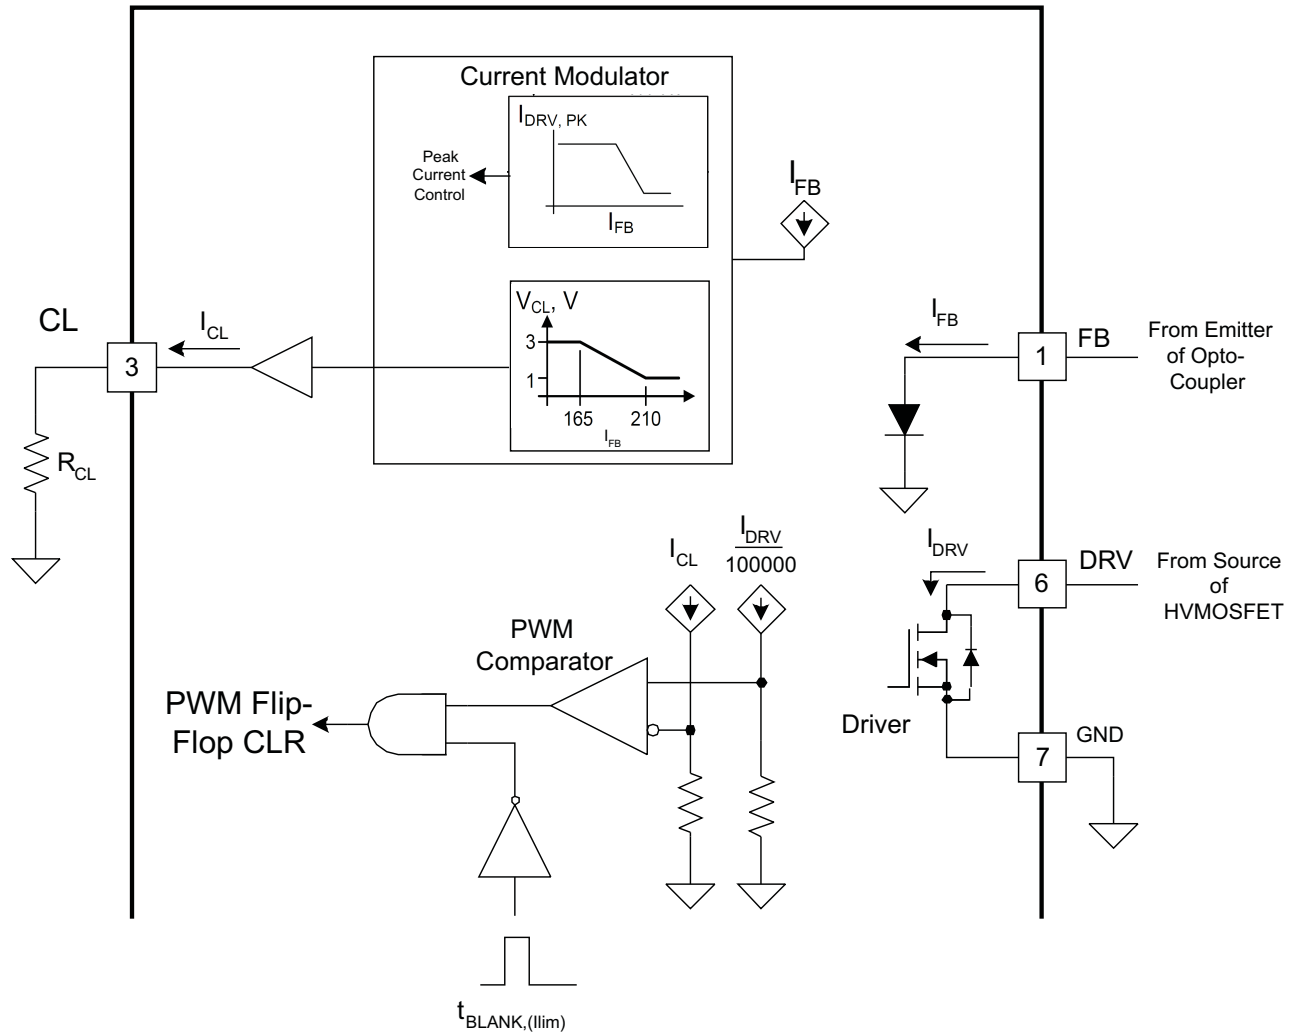

**Figure 27. Modulation Control Blocks**
Under normal operating conditions, the FB current commands the operating mode of the UCC28610, as shown in Figure 27 and Figure 28. The FB current commands the UCC28610 to operate the converter in one of three modes: Frequency Modulation (FM) mode, Amplitude Modulation (AM) mode, and Green Mode (GM).
The converter operates in AM mode at moderate power levels (2.5% to 22% of the peak regulated power). The FB current regulates the output voltage by modulating the amplitude of the peak HVMOSFET current from 33% to 100% of the maximum programmed value while the switching frequency is fixed at approximately 30 kHz. The UCC28610 modulates the voltage on the CL pin from 3 V to 1 V to vary the commanded peak current, as shown in Figure 27 and Figure 28.